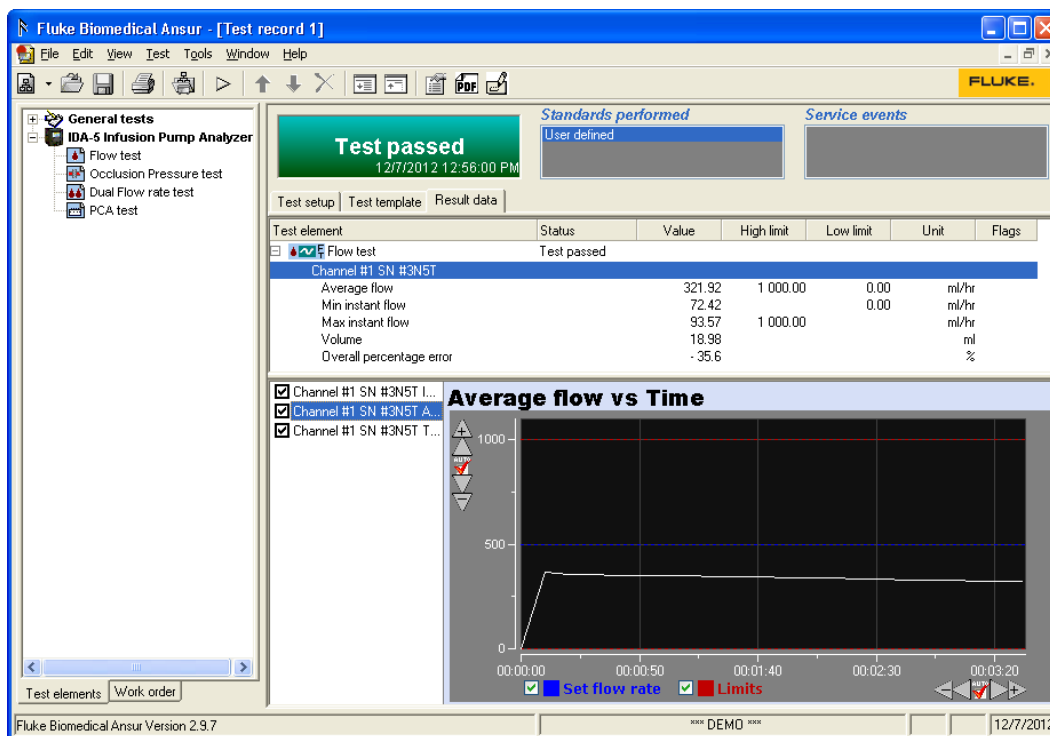

Figure 3-14. Test Record
16. Click the Next button (➡) or click **F9** on the keyboard to make a test record. An example of a test record is shown in Figure 3-14.